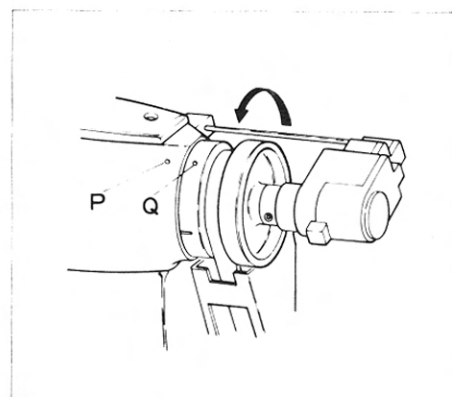

Figure 11
8. Sewing Machine Rotation (Figures 11 and 12)